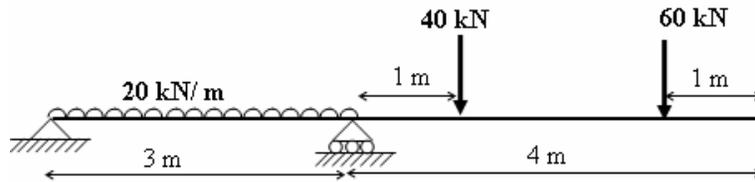

Fig.4
6. Using stiffness method analyze the beam shown in Fig.4. [16]